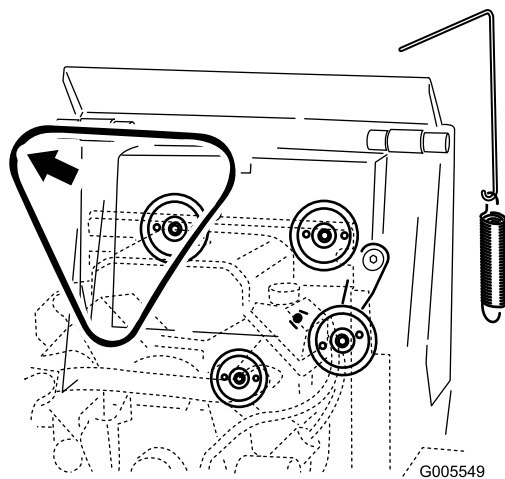

Figure 53
5. Remove the belt from the 3 pulleys (Figure 53).